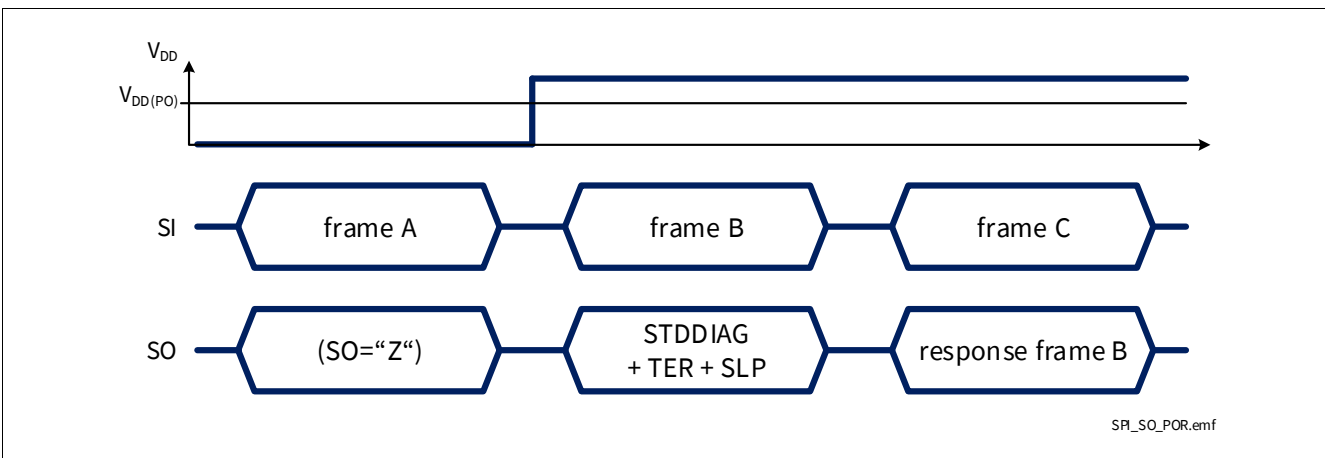

Figure 44 SPI response after coming out of Power-On reset at V_{DD}
- When BTS71040-4ESE digital supply comes out of Power-On reset condition, as shown in Figure 44